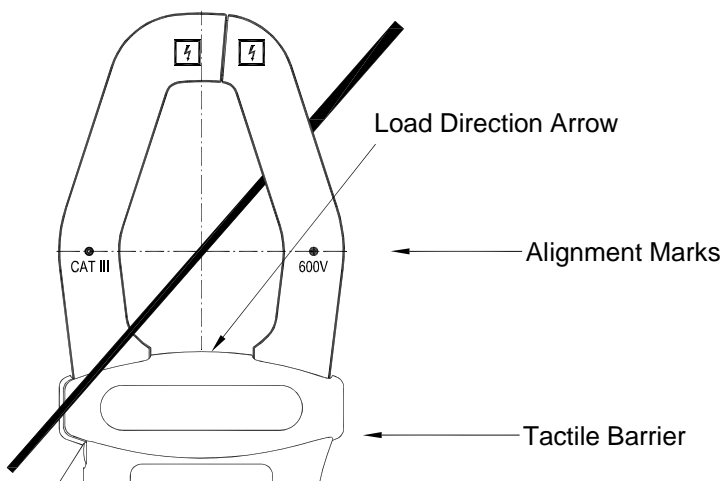

Figure 4. ICA 3600N Current Probe
- Do not hold the current probe anywhere beyond the tactile barrier, see Figure 4. ICA 3600N Current Probe
(See Figure 1. Current Probe Positional Error and Figure 4. ICA 3600N Current Probe)